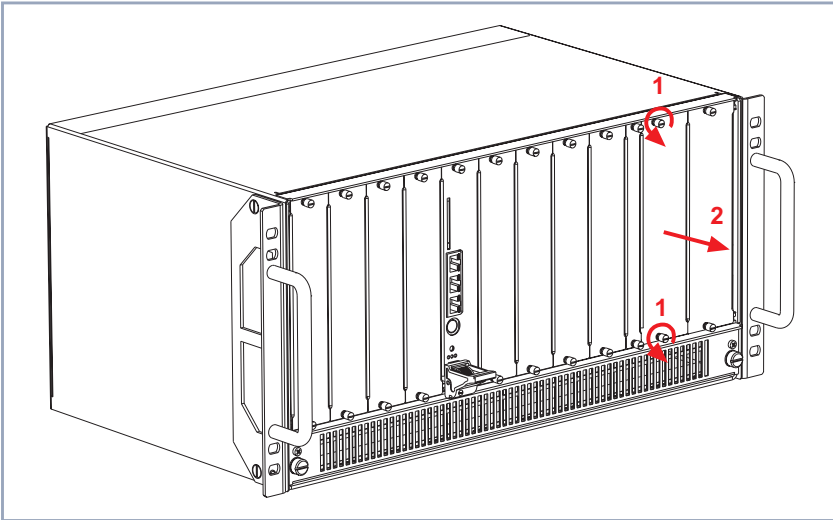

Figure 1-1: Removing the power supply unit dummy front-panel
- Loosen the screws of the power supply dummy front-panel as shown in figure 1-1, page 20.